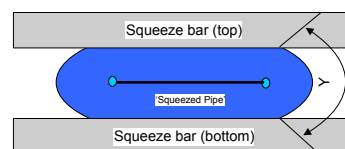

Fig 5.
Critical areas are located 90° to the squeeze tool compression bars, extending 100 mm either side of the bars and a distance 'Y' around the circumference of the pipe (see Fig.5). 'Critical areas' should be free from pipe damage or pipe surface damage.
- 19) Inspect the pipe, paying particular attention to the 'critical areas' ('Y' in Fig 5.) that are visible at the sides of the squeeze bars. If there is any evidence of pipe splitting then this should be reported immediately to the asset owner and the damage treated as an emergency procedure.